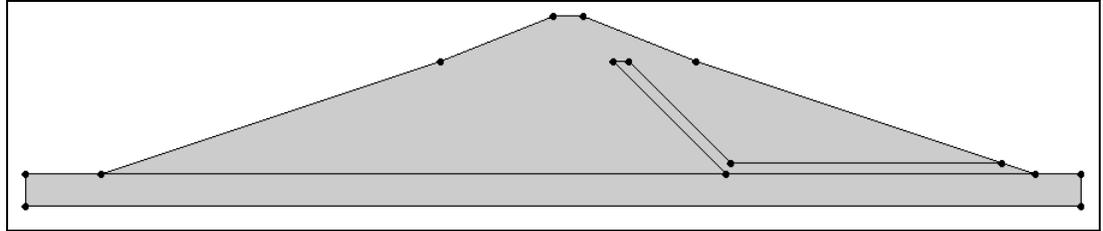

Figure 2 Arcs connecting points
- Using Figure 2 below as a guide, click on the points to connect them with arcs to create the slope.